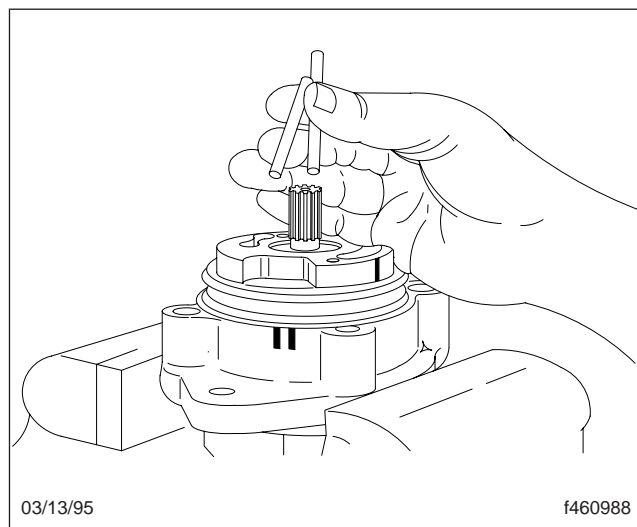

Fig. 12, Removing the Locating Pins
11. Remove the locating pins. See Fig. 12. Make marks on the outside of the cover (not on the sealing surface) to note from which holes the locating pins were removed.